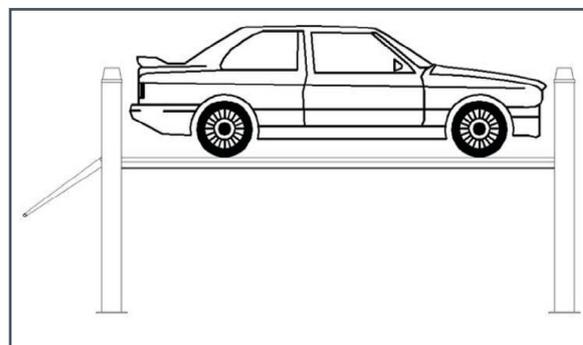

Figure 7
- Make sure the vehicle is positioned correctly (figure 7).